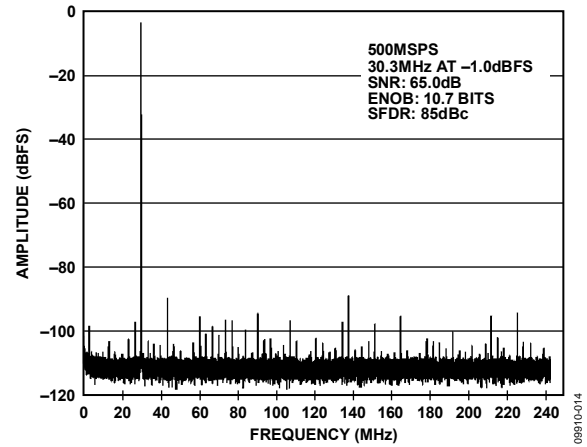

Figure 14. Typical FFT, AD9434
- Click the disk icon within the **Graph** window to save the performance plot data as a .csv formatted file. See Figure 14 for an example.